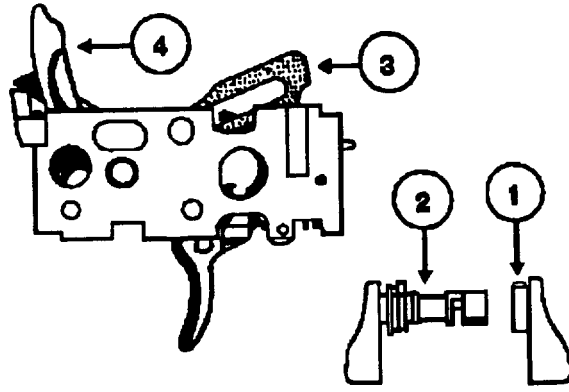

Figure 3-4. Disassembled Trigger Mechanism And Selector Lever
b. Depress and hold the catch lever ((4) cut away view). while rotating the selector lever (5) clockwise nearly one complete turn until the white indicator is in (he 6 o'clock (down) position. Pull to remove it from the left side of the weapon. Also, remove the right-hand side selector lever. The spring loaded lock (1). Figure 3-4, connects the right side selector lever to the safety axle (2). The safely axle connects the trigger mechanism to the pistol grip.
c. Grasp the ejector (3) and the hammer (4) and lift the interior trigger mechanism up and out of the pistol grip.
- a. Reassemble by grasping the trigger mechanism by the ejector (3), Figure 3-4 on page 3-14, and the hammer (4) and inserting it into the pistol grip.